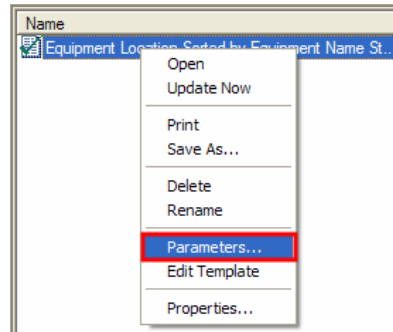

Figure 21: Parameters... Command
5. Change tasks back to the **Drawings and Reports** task. Locate the report **Equipment Location Sorted by Equipment Name Style 1-1-0001** and right-click the report. Select the **Parameters** option on the right-click menu, as shown in Figure 21.